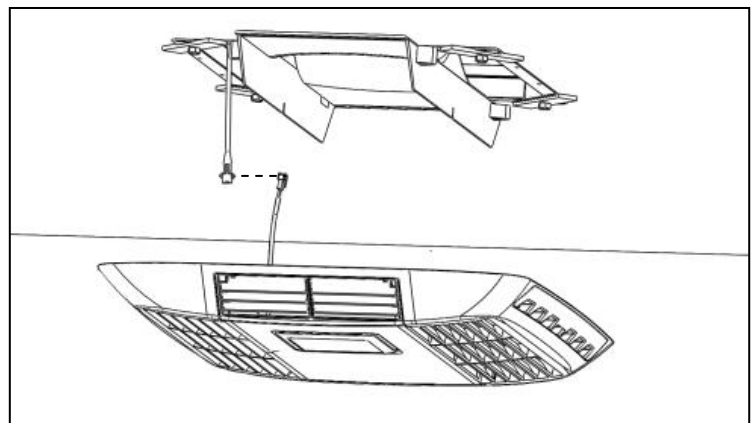

Fig 14: Connect the control panel cables together to provide power to the display
- Connect the key pad control cables together (see Fig 14 and below). Be sure that the plug joins the corresponding wire colours together (yellow to yellow, red to red etc.)